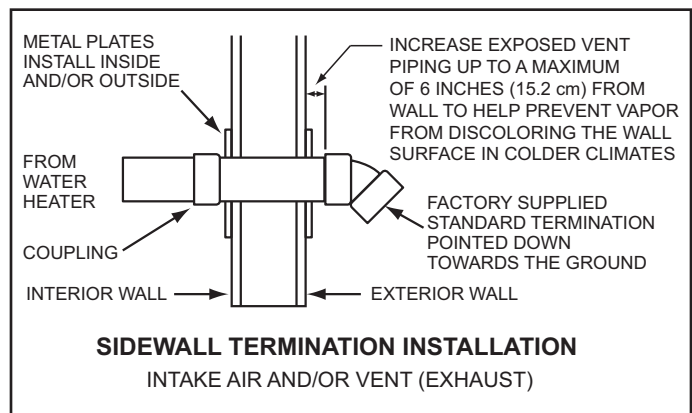

Figure 23
8. Cut a length(s) of pipe being installed 3.5 inches (8.9 cm) to 9.5 inches (24.1 cm) longer than the wall thickness at the opening. See Figure 23.
11. Working from outside, slide the pipe and termination(s) assembled in the above steps through the wall. Ensure the termination(s) is pointed down towards the ground. See Figure 23.
15. Install a coupling to the end of the pipe(s) inside the building. Before the silicone caulking has time to completely set go outside the building and ensure the termination(s) is still pointing down towards the ground. See Figure 23.